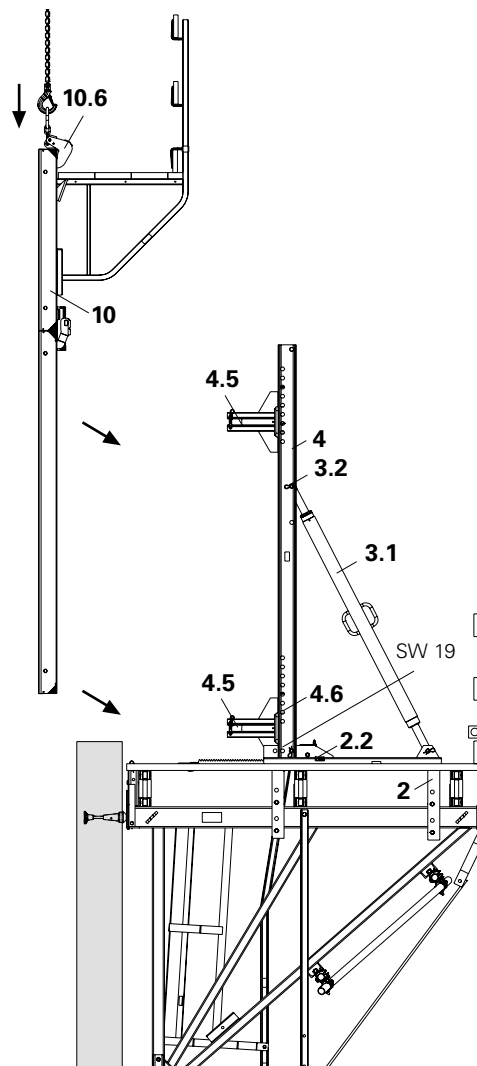

Fig. B2.21
1. Retract Carriage (2) and secure with wedge (2.2), see B4.1.
2. Fix Connectors CB (4.5) to the Strongback CB (4) using bolts  $\varnothing 25 \times 180$  and cotter pins (4.6).
3. Attach Strongback (4) to the Carriage (2) using bolts  $\varnothing 25 \times 180$  and cotter pins (4.6).
4. Attach Adjustable Brace (3.1) to Strongback using bolts  $\varnothing 25 \times 180$  and cotter pins (3.2) and laterally brace Strongbacks. (Fig. B2.21)